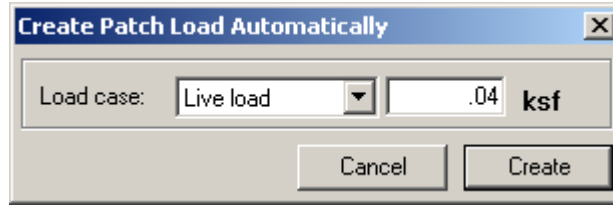

FIGURE 2.4.1-1 PATCH LOAD WIZARD DIALOG BOX
4. The dialog box shown in **Fig. 2.4.1-1** opens. Change the “Load case” to live load and the value to 0.04ksf. Note that the selfweight of the structure is calculated automatically by the program, using the geometry of the structural model and the unit weight defined by the user. The program has the conventional unit weight value of concrete as its default value.